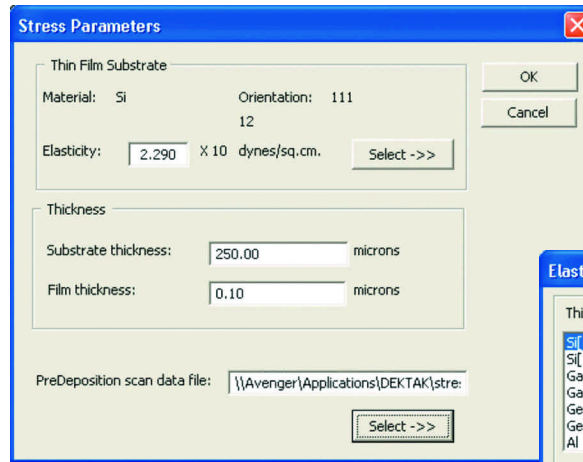

Figure 3. Scan Parameters dialog box.
18. With the post-deposition scan data on screen, choose **Analysis>Compute Stress**. This will open the Stress Parameters Dialog Box (Figure 3).